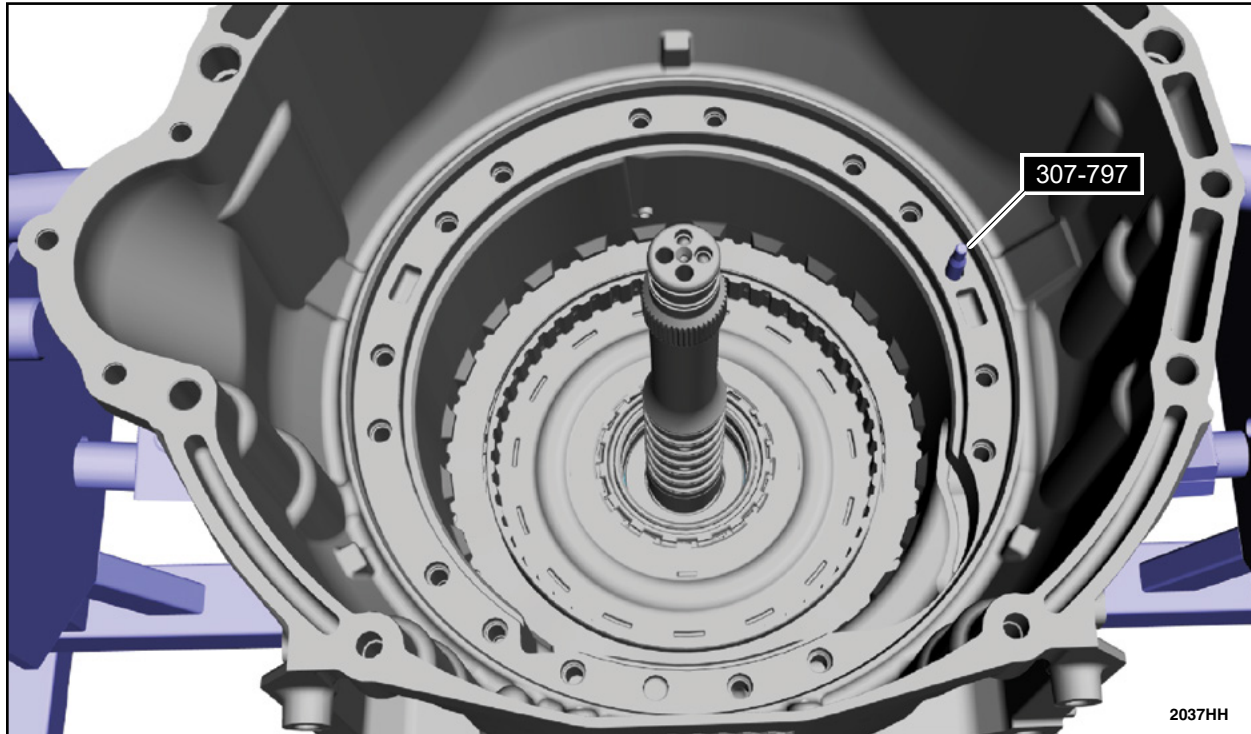

FIGURE 28
30. Install special tool 307-797 in the location shown. See Figure 28.